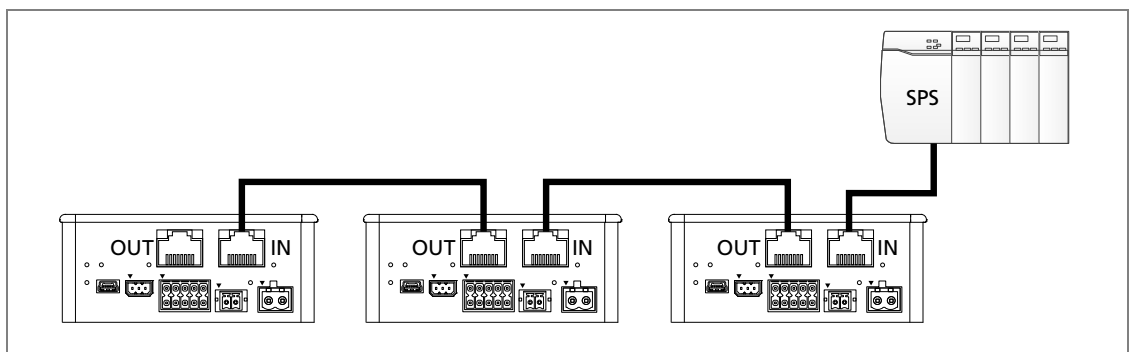

Fig. 2: Connection to the EtherCAT network
2. Connect the EtherCAT IN port to the Master side port (see Fig. 2, p. 10).